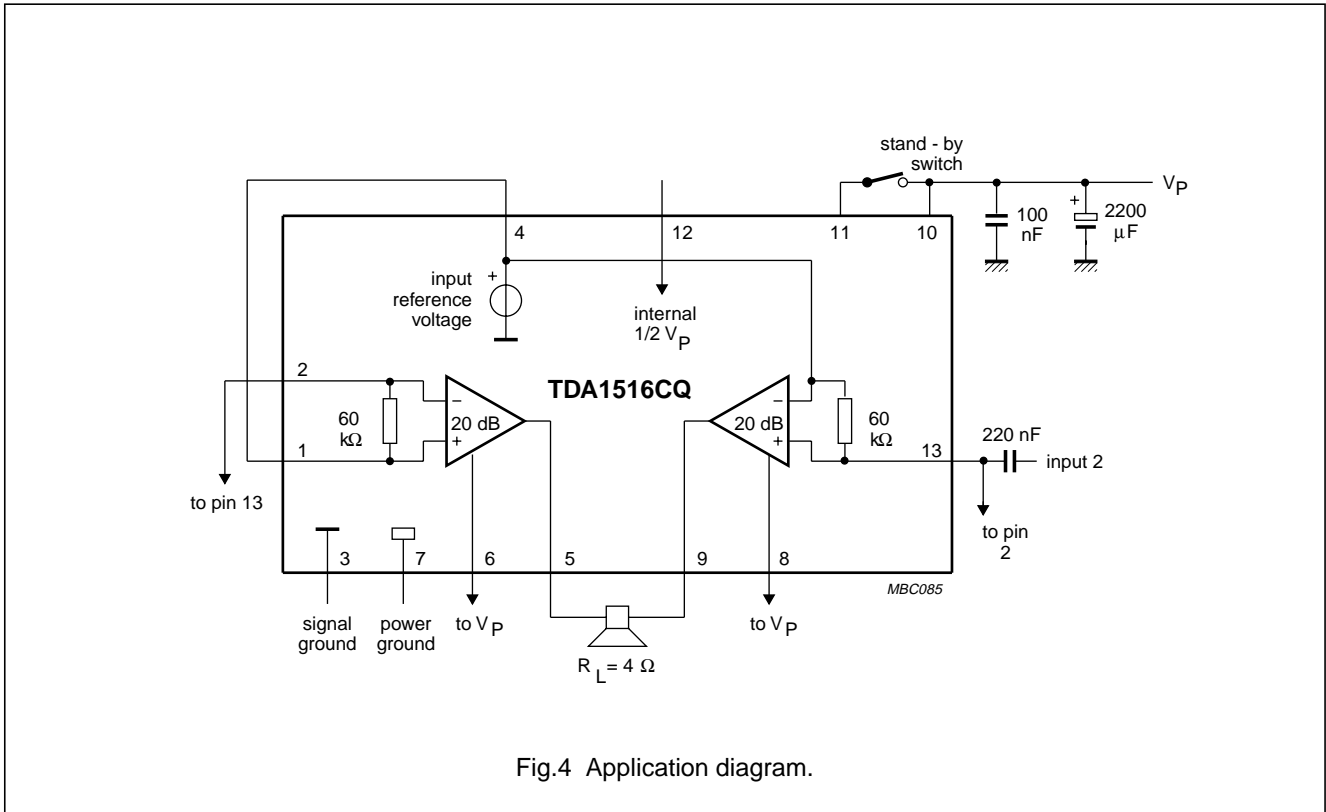

Fig.4 Application diagram.
- All characteristics are measured using the circuit shown in Fig.4